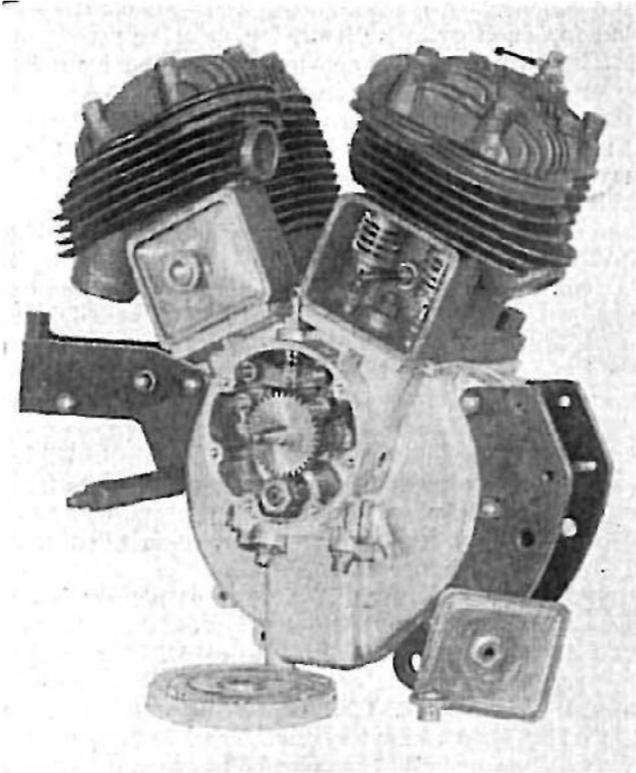

FIG. 25. CLOSE-UP VIEW OF THE 9.90 H.P. S.V. VEE-TWIN ENGINE
**The 9.90 h.p. S.V. Vee-twin Engine.** This engine has a bore and stroke of 85.5 mm. x 85.5 mm., giving a cubic capacity of 990 c.c. The two cylinders are set at 50 degrees to each other, and the bores, being "square" with the cylinder castings, the firing angle is also 50 degrees. Fig. 25 shows the general design and construction of the power unit.
The valves themselves are of large diameter and of the mushroom type with single springs and slotted valve stems for the flat cotters used for anchorage. They reciprocate in chilled cast-iron guides which are readily detached for renewal. Round section tappets are used, and the adjustable heads screw into the tappet-bodies and are secured by lock-nuts. The timing gear is extremely simple. It comprises a single cam wheel having three cams, one each for the exhaust and one for the inlet valves, driven off the engine pinion, and four rockers mounted on pivot pins and separated from the back of the timing case by  $\frac{29}{64}$  in. distance collars. The arrangement of these rockers is shown by Fig. 25, and the neat exhaust valve lifter mechanism in the centre is also clearly illustrated; the timing pinions are marked for mesh. The products of combustion are swept out from the exhaust ports into an imposing and exceedingly quiet exhaust system comprising two  $1\frac{3}{4}$  in. diameter chromium plated pipes, each terminating in a standard Matchless silencer and fish-tail.